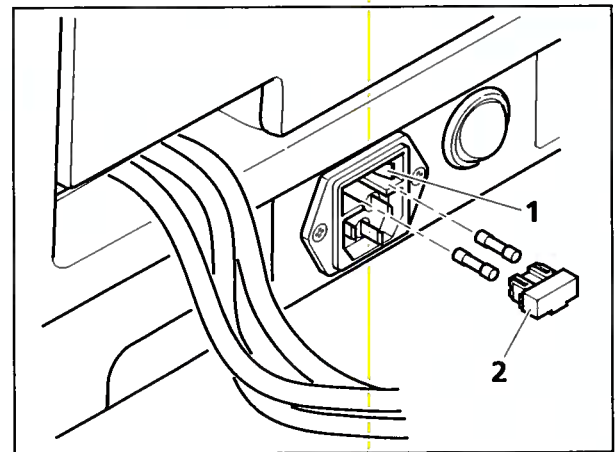

Fig. 6-22 Replacing the fuses
- Remove the fuse holder (Fig. 6-22/2) by pulling it to the front. Use a small screwdriver for the purpose if necessary.
- Remove the fuses from the fuse holder (Fig. 6-22/2) and replace them with new ones.
- Reinsert the fuse carrier into the fuse compartment (Fig. 6-22/1) until it clicks into place.